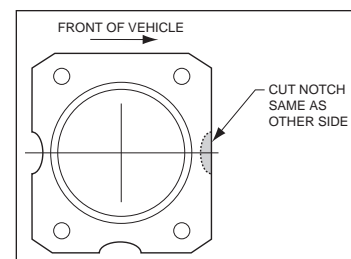

Figure 4. Flange Modifications
- Minor modifications to the axle flange may be required, see text and Figure 4 on page 4.
- Axle housing flange may need to be modified by grinding. A relief, the same dimension as the OEM relief at the rear of the housing must be present at the front (of vehicle) side of the housing flange, see Figure 4. This is necessary in order to reinstall the OE wheel speed sensor onto the new backing plate assembly.